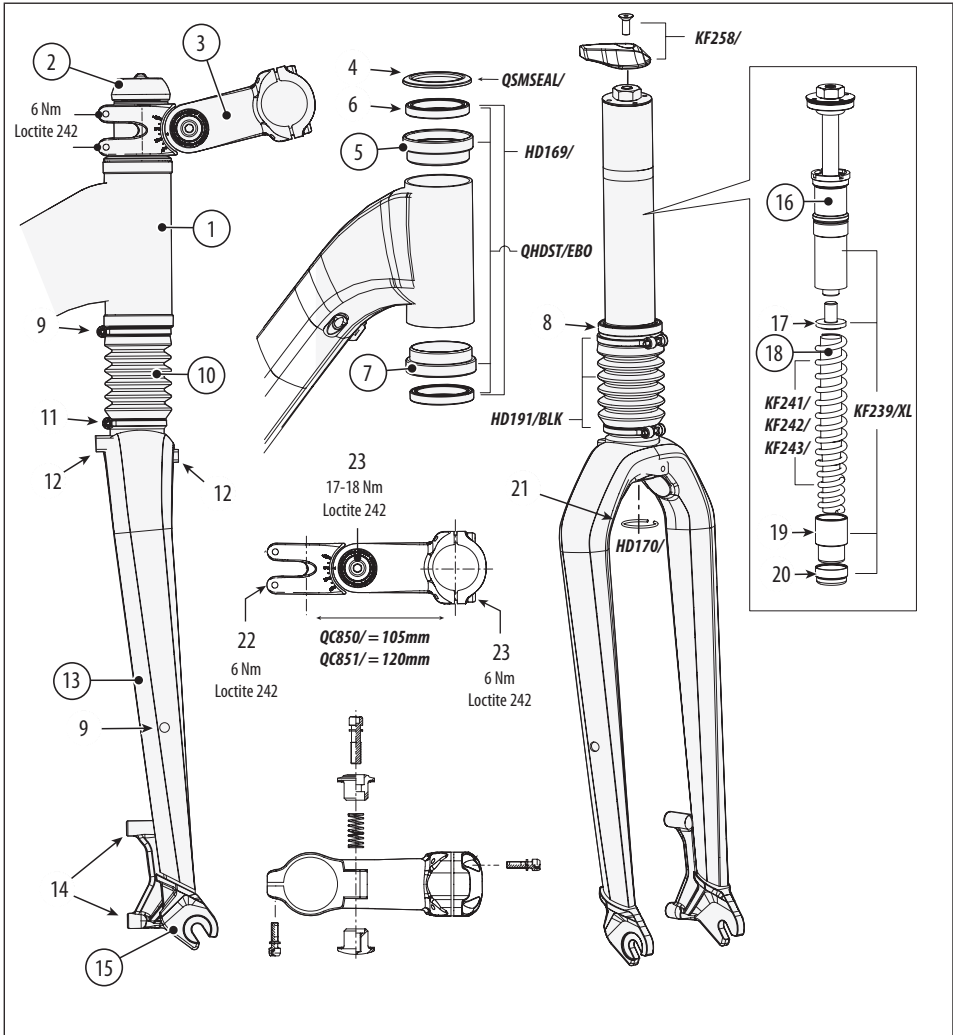

Figure 13.
See Figure 13. The angle of the handlebar can be raised or lowered depending on your preference. To change handlebar height, loosen the stem angle fixing bolt (23), then raise or lower the handlebar. When the handlebar is in the desired position, use a torque wrench to tighten the fixing bolt to 17-18Nm.